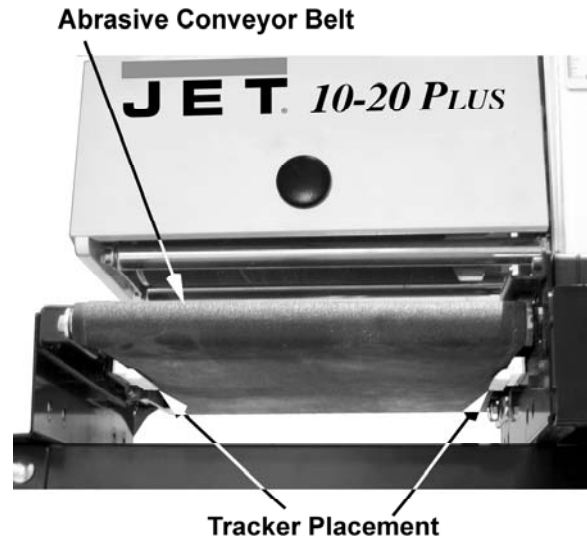

Figure 2
4. Referring to Figures 2 and 3: The tracker is positioned on the underside of the conveyor belt, on the infeed side of the sander, (closest to the rubber covered drive roller and gear motor). The back of the tracker is magnetized and will stick to the sidewall of the conveyor bed. Do not install the tracker if the edge of the conveyor belt is damaged or torn.